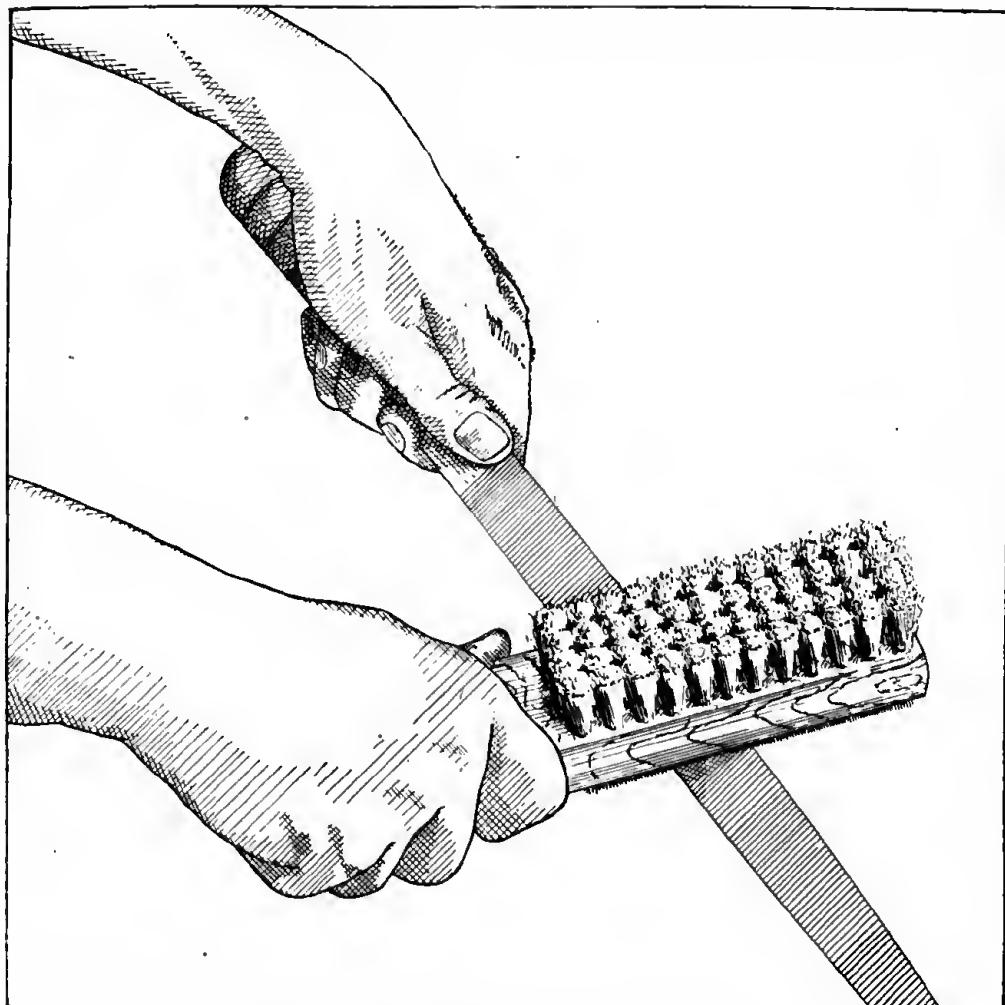

Figure 121. Cleaning a file with a file card.
(5) Files often pick up chips which stick tightly in the teeth. This is called pinning. When this happens, the file may be cleaned with a file card (fig. 121) or even a sharp-pointed pick. A little oil or chalk on the file, especially a new one, will help prevent pinning. A new file should not be used on very hard metals, nor should very much pressure be applied to it at first. A few heavy strokes on a hard material will take several hours from its useful life. Files are usually cleaned with a file card, but wood and fiber chips can be removed more easily if the file is dipped in alcohol or gasoline, burned, and then cleaned in the usual manner with a file card. Particles of wood should not be burned out with a blowtorch as this heats too hot and draws the temper. The file should be well-oiled immediately after burning, to prevent rusting. A file should never be used on a material harder than itself or on scaly castings. This will break the teeth and make the file useless. A file should never be tossed or thrown into a drawer; nor should it be laid on other files. The best place to keep a file is standing upright with the tang in a hole. If it must be kept in a drawer or tool box, it should be kept wrapped in paper or cloth. The surface of a file blade is made up of thousands of small teeth. It is these teeth which do the work. If they are broken or dull, the file is useless.